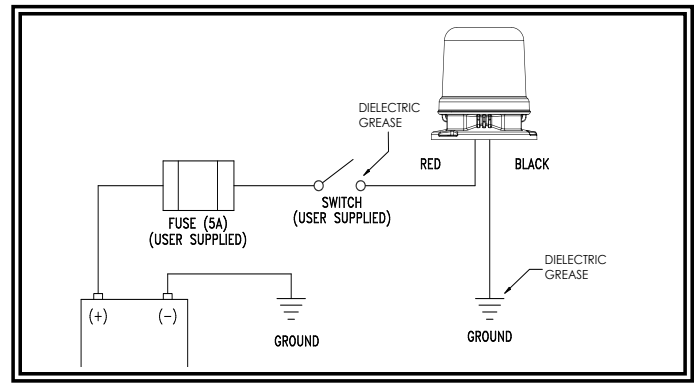

Figure 3
5. Connect the power wires as shown in the wiring section (see Figure 3).
The wiring for this configuration is as shown in Figure 3. All wiring should be a minimum of 18AWG. The positive line must have a 5 amp fuse, as shown. A switch may be used to control the on/off function. Suggest routing ground wire directly back to negative battery terminal. Pack dielectric grease, such as Dow Corning 4, around each electric connection exposed to moisture or the ambient environment.